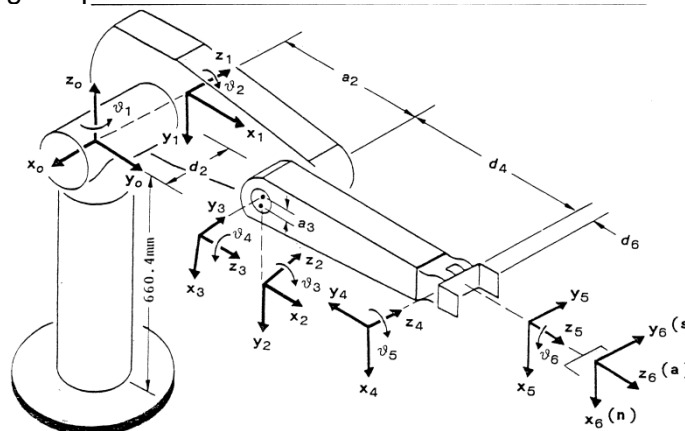

Figure 1
1. Write the coordinate transformation matrices for PUMA links as shown in figure 1 based on the following DH parameters